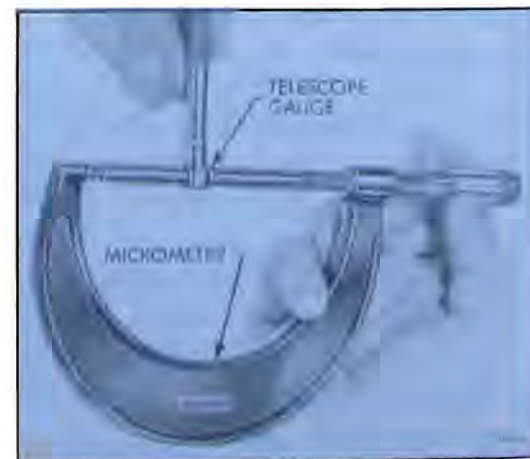

Figure 60-231—Measuring Telescope Gauge
2. Measure the telescope gage. See Figure 60-231.